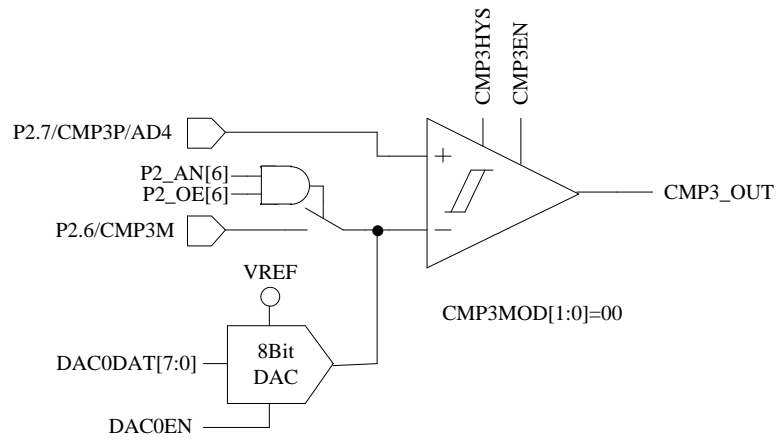

Figure 30-2 Single-comparator Input Mode (CMP_CR1[CMP3MOD] = 00)
- When CMP_CR1[CMP3MOD] = 00, CMP3 works in single-comparator input mode. The connection of input and output pins are shown in Figure 30-2.